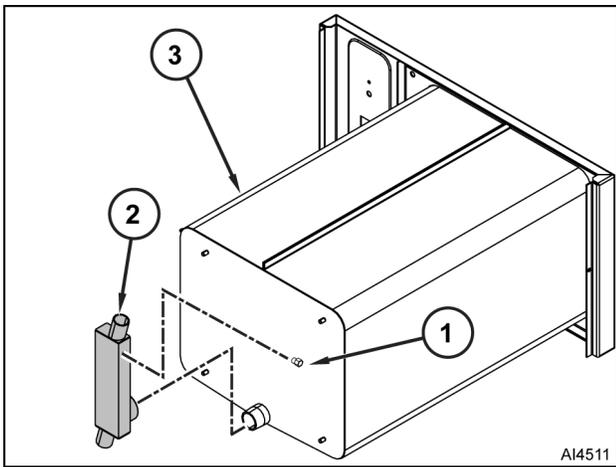

Fig. 50
- A. Remove sensor probe fitting (1, Fig. 50) from vent weldment (2).
- B. Remove vent weldment (2) cooking compartment (3).